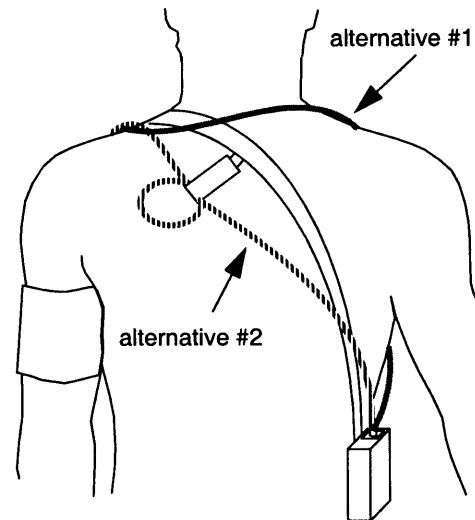

Figure 4-1: Common Cuff Hose Positions
6. Lead the hose up the arm with the cuff and place it across the back of the patient. Drape the hose so it does not cause the patient discomfort and is not pinched shut by too tight a radius. *Figure 4-1* shows the most common positions for the cuff hose.